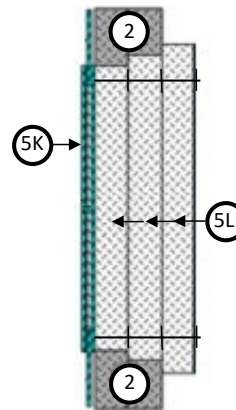

Figure 10b. Access Door
- H. ACCESS DOOR OPENING (Not Identified in Figure 10b) – Mark a clean-out access opening location on the uninsulated grease duct (Item 1) at its mid-height along the horizontal section. Cut an opening max. 18 in. high x 24 in. wide at the mid-height along the horizontal section. Install 12 GA, 7 in. long, steel insulation pins around the perimeter of the access door opening, spaced 2 in. away from the opening, with a pin located at each corner and max. 4 in. oc elsewhere around the perimeter.
- I. ACCESS DOOR OPENING PERIMETER (Not Identified in Figure 10b) – Drill and tap 3/8-16 threaded holes around the perimeter of the access door frame using max. 6 in. oc spacing on the vertical (left and right) sides, and 4 in. spacing on the horizontal (top and bottom) sides.